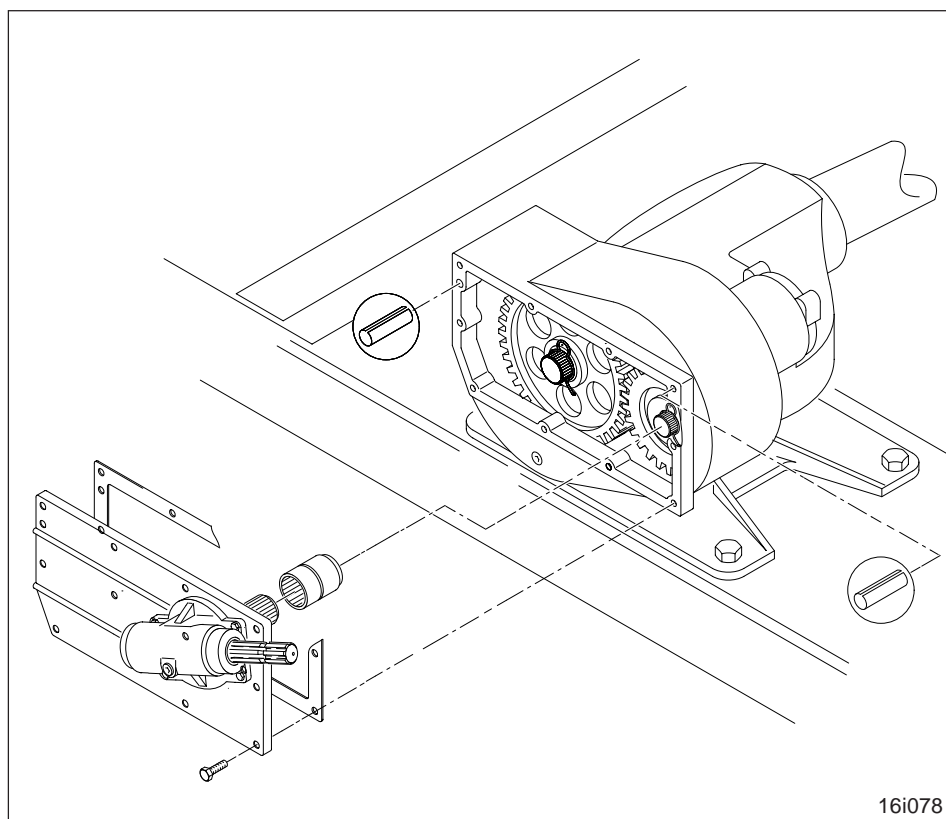

Fig. 9.11
To drive the blower fan of the neumatic Pack Top seed drill AD-P the exchange gear main gearbox has to be equipped with an angle power take off (Fig. 9.11) .
- Only drive the angle power take off (Fig. 9.11) with coupled AD-P and connected pto shaft (please refer to AD-P instruction manual).